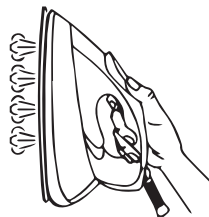

Figure 16
2. Hold the iron in vertical position 15 to 30 centimeters away from the garment (Figure 16).